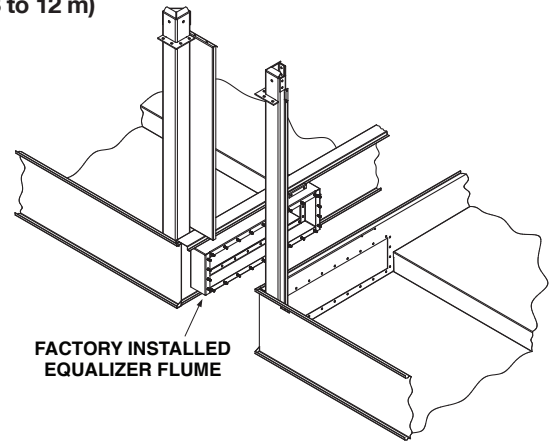

Figure 6 – Equalizer Flume Rigging Detail, 12' (3.6 m) Wide Models
4. Rig the second basin section adjacent to the equalizer flume on the steel support as shown in Figure 6.